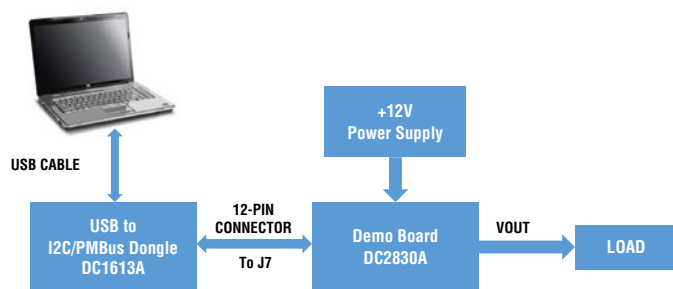

Figure 1. Demo Setup with PC of DC2830A
Demonstration circuit 2830A makes it easy to use the LTC7106 to adjust the LTM4636 output voltage. This demo manual will focus on the evaluation of LTC7106. For the LTM4636 evaluation procedure, please refer to the DC2230A-A demo manual on the Analog Devices website. Please refer to Figure 1 for proper demo board setup with PC and follow the procedure below:
- With power off, connect the input power supply, load and meters as shown in Figure 1. Preset the load to 0A and V_{IN} supply to 12V.